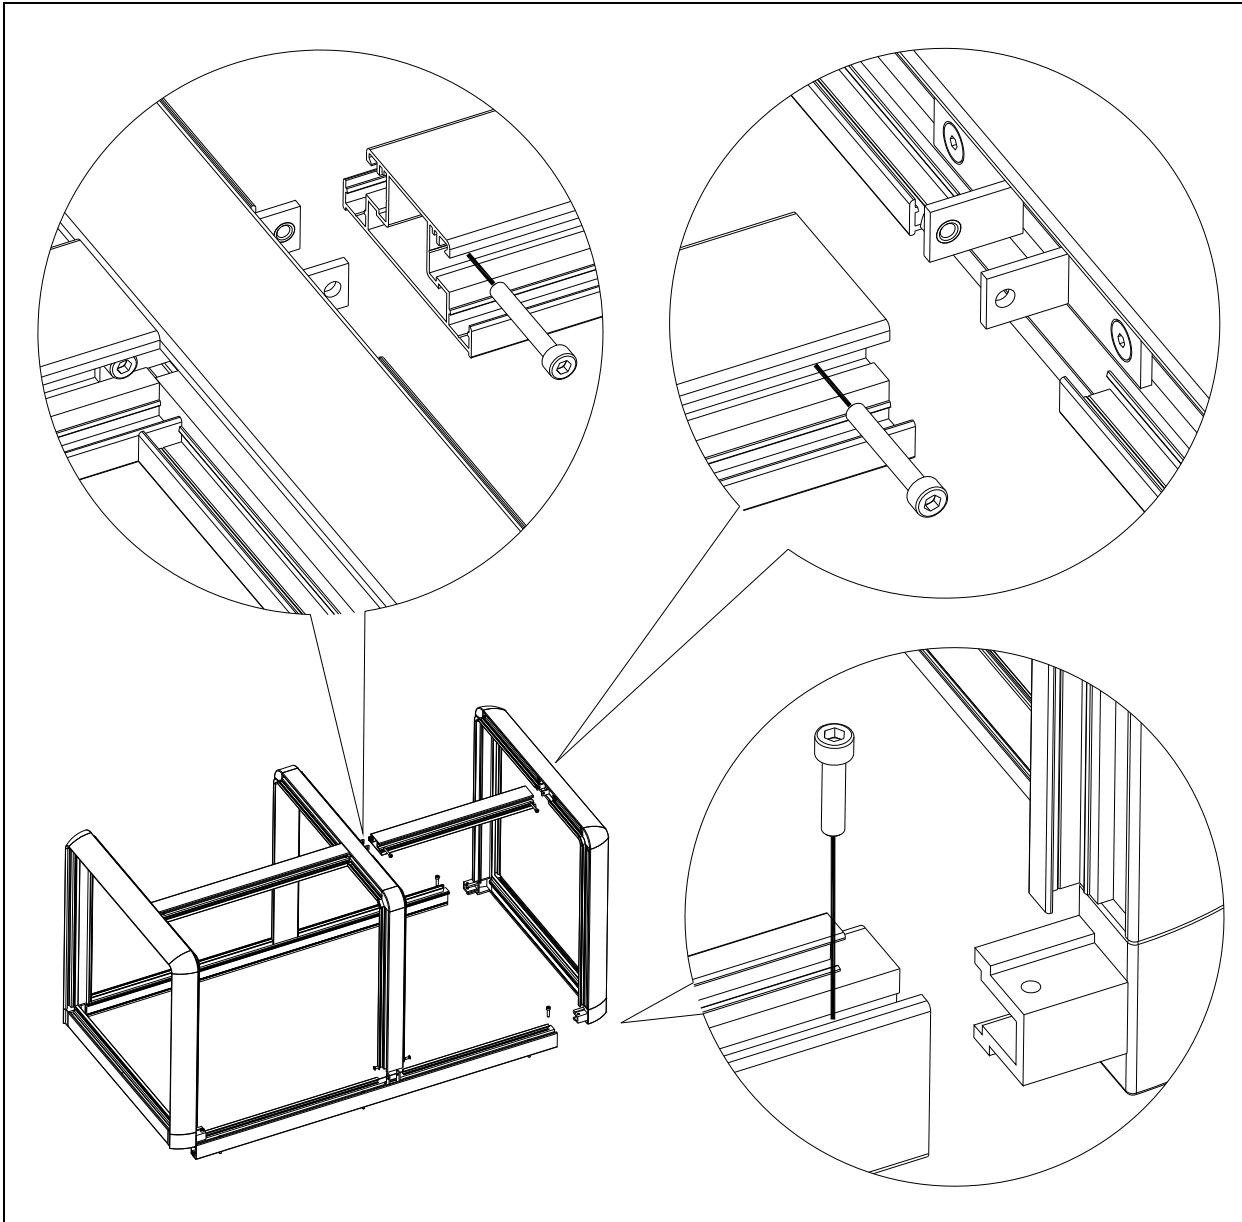

Figure 27: exploded view sound shield M-SQ12
- 2 The sound shield canopy can be disassembled according to exploded view below (figure 27).